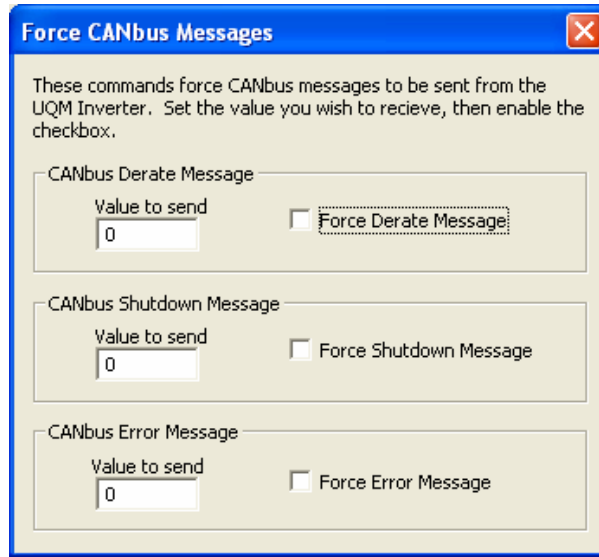

Figure 3.1 – CANbus Test Message Dialog
2. In the dialog that pops up enter the value to be transmitted for a particular error message and select the accompanying *Force ... Message* option (Refer to Figure 3.1)